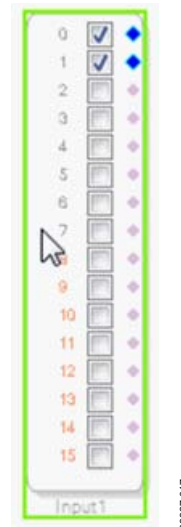

Figure 17. Input Cell
3. Click and drag the input cell into the blank schematic space to the right of the toolbox (see Figure 17).